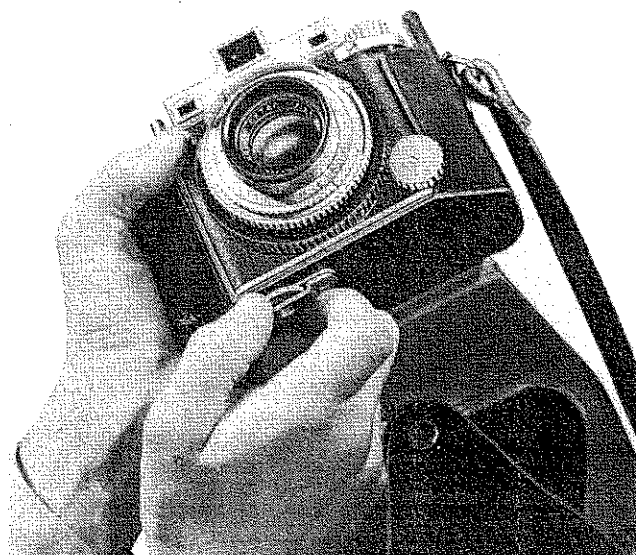

Figure 6—Putting Camera in Carrying Case
b. Unfasten the back flap of the case cover and open the case. Slip the camera into the case and screw the retaining screw into the tripod socket of the camera as shown in figure 6. The retaining screw is provided with a standard tripod socket so that the camera can be used on a tripod while in the case.